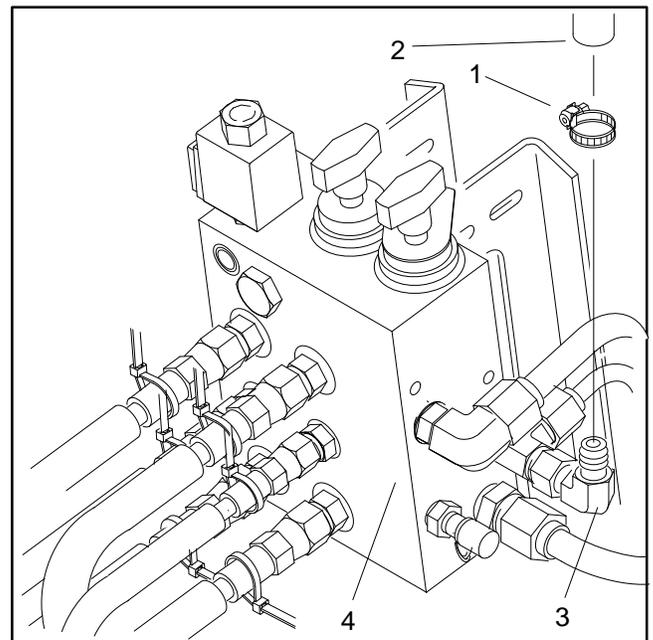

Figure 21
- B. Loosen hose clamp (1) and disconnect hydraulic supply hose (2) from the hydraulic elbow fitting (3). Plug hose and fitting to prevent leakage and contamination (Fig. 21).